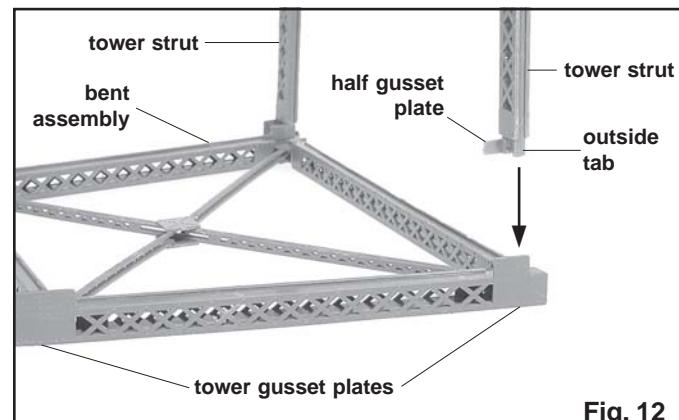

Fig. 12
a. Lay a bent assembly on the work surface with the gusset plate extensions up. Holding a tower strut vertically, place the end on the bent assembly, with its gusset plate to the inside. See fig. 12. The two tower struts with half gusset plates are used on the 1st story, with the half gusset plates toward the top of the bent assembly.
c. Put cement only on the outside tab of the tower strut and press this tab against the inside of the tower gusset plate with tweezers. See fig. 12.